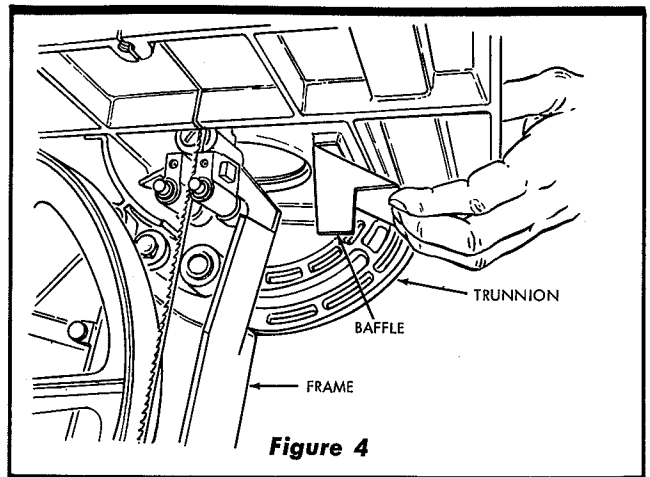

Figure 4
4. Grasp the saw table with fingers holding the baffle so it will not strike the saw frame (figure 4), and slide the table carefully onto the frame from right-hand side. Make sure the two guide pins in the frame enter the slot in the trunnion.
ment to check for proper blade tracking. After completing the blade tracking adjustment, install the saw table and baffle. (See figure 4.)